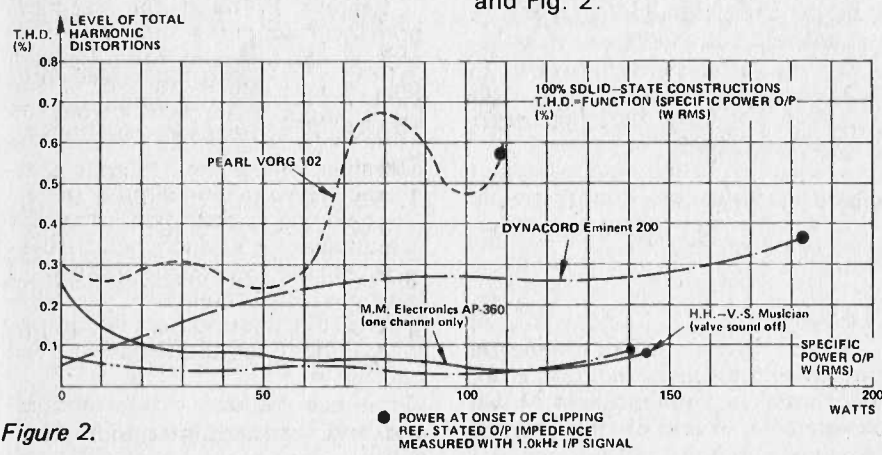

Figure 2.
1. H.H. V.S. Musician Reverb 100W Amplifier (GB)
4. "MM" Electronics — AP 360 Dual Power Slave (GB) and the results of experiments on this group are presented in Table 2 and Fig. 2.